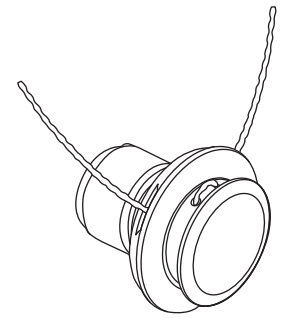

Fig. 13
6. Correctly installed line will be the same length on both sides (Fig. 13).